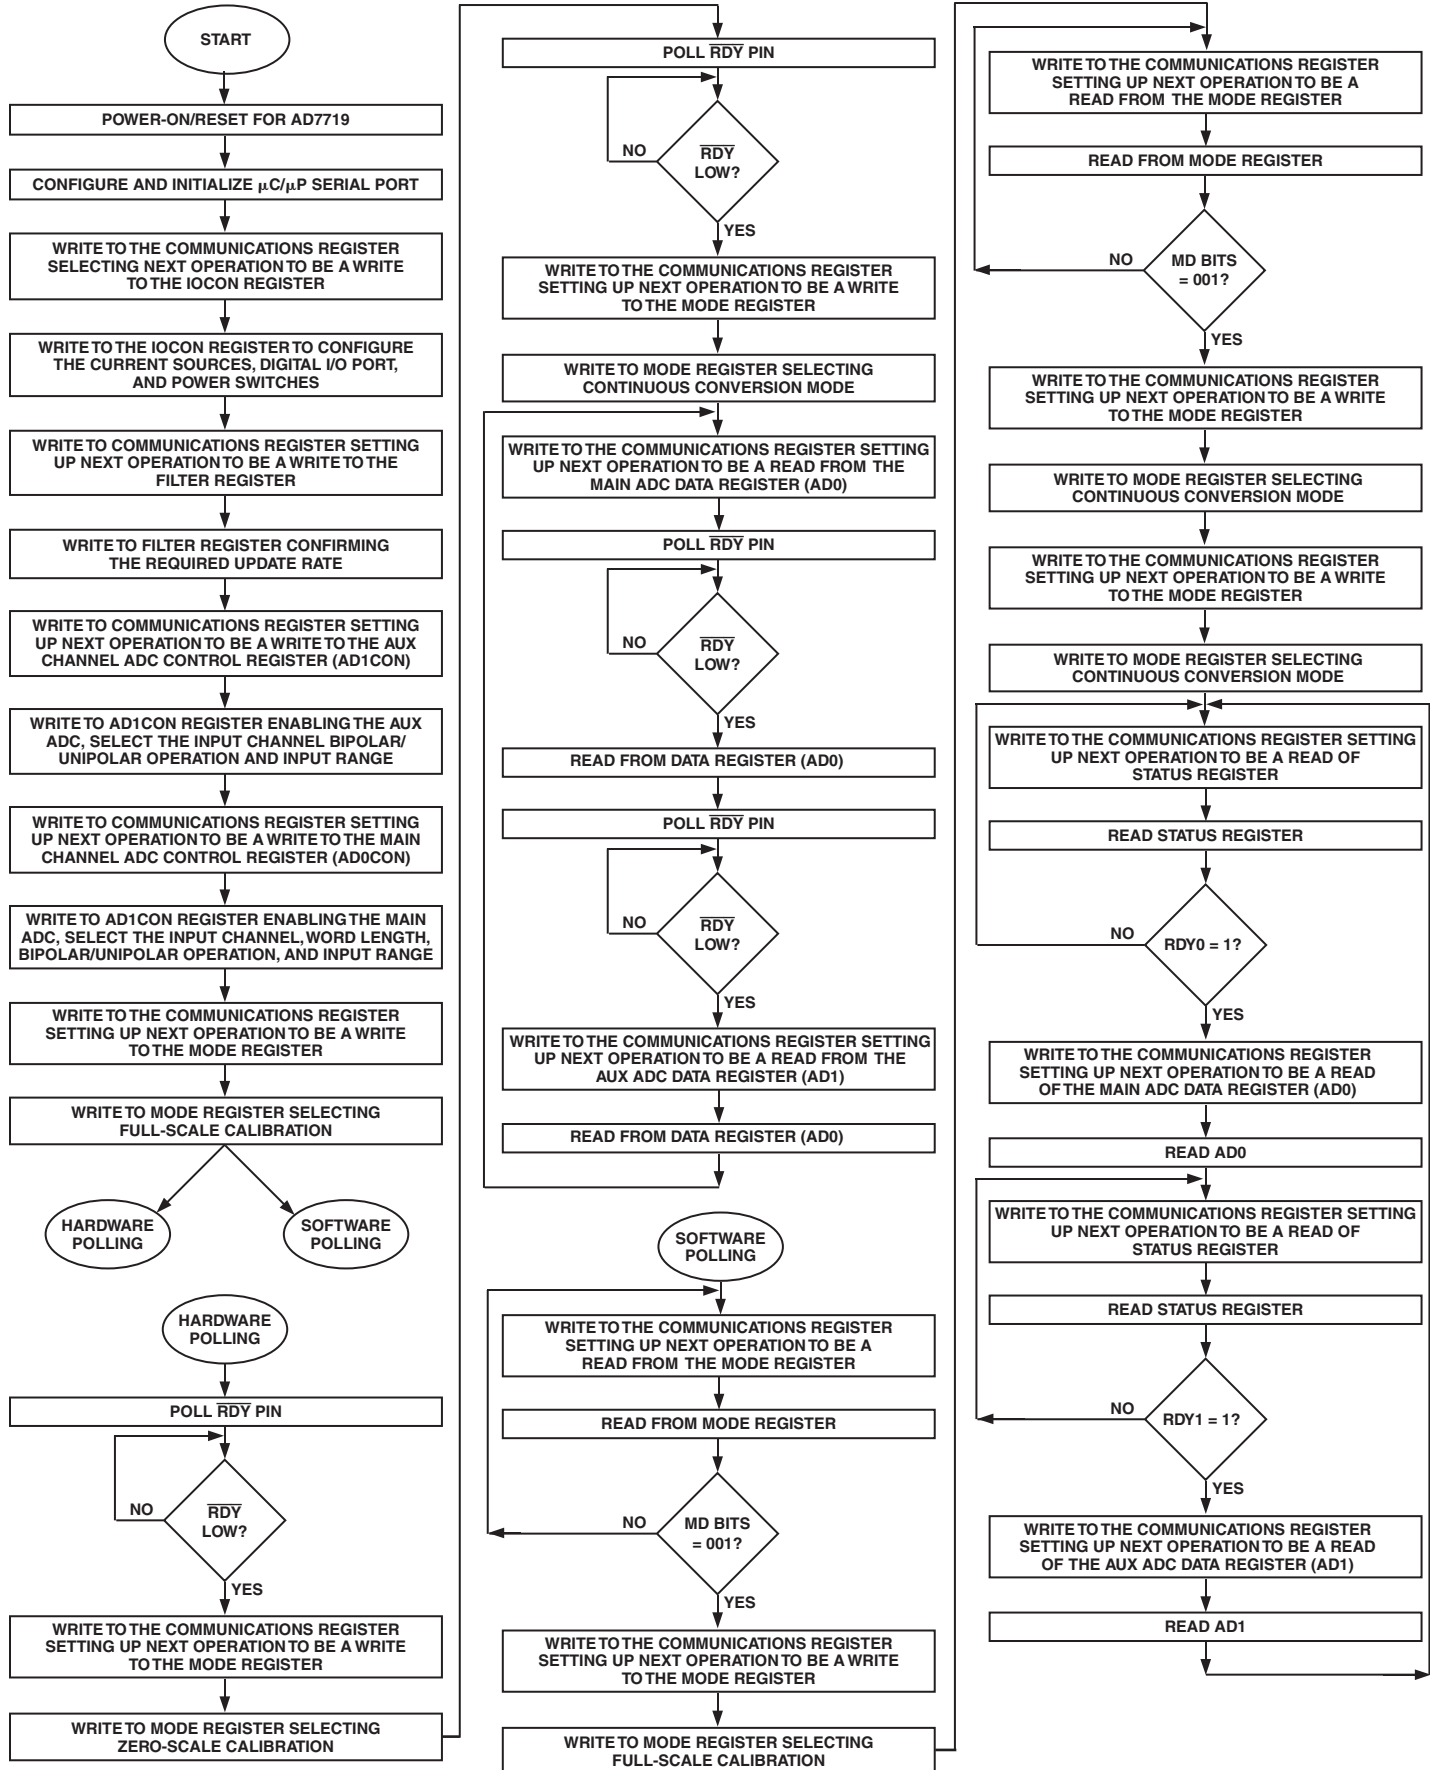
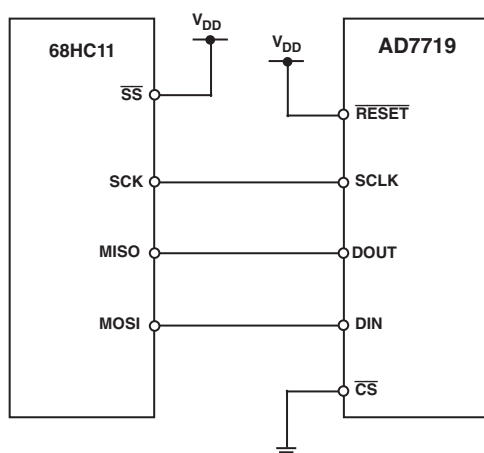

Figure 11. Flowchart for Initializing, Calibrating, and Reading Data from the AD7719 Main and Aux Channels
Figure 12. AD7719-to-68HC11 Interface
Figure 11 outlines a flow diagram of the sequence used to configure all registers after a power-up or reset on the AD7719. The flowchart shows two methods of determining when it is valid to read the data register or determine when a calibration cycle is complete. The first method is hardware polling of the $\overline{\text{RDY}}$ pin and the second method involves software interrogation of bits in the status and mode registers. The flowchart details all the necessary programming steps required to initialize the ADC and read data from the main and aux channel following a power-on or reset. The steps can be broken down as follows:
3. When the operating mode is selected, the user needs to determine when it is valid to read the data in conversion mode or when the calibration is complete in calibration mode. This is accomplished either by polling the $\overline{\text{RDY}}$ pin (hardware polling) or by interrogating the bits in either the Status or Mode registers (software polling). Both are shown in Figure 11. It is assumed that both the main and aux ADCs are being used and calibration is required. If the AD7719 is operated at the factory-calibrated conditions, a field calibration will not be required and these steps can be bypassed.
The AD7719's flexible serial interface allows for easy interface to most microcomputers and microprocessors. The flowchart of Figure 11 outlines the sequence that should be followed when interfacing a microcontroller or microprocessor to the AD7719. Figures 12, 13, and 14 show some typical interface circuits.
Figure 12 shows an interface between the AD7719 and the 68HC11 microcontroller. The diagram shows the minimum (3-wire) interface with \overline{CS} on the AD7719 hardwired low. In this scheme, the RDY bits of the Status register are monitored to determine when the Data register is updated. RDY0 indicates the status of the main ADC channel while RDY1 indicates the status of the aux channel. An alternative scheme, which increases the number of interface lines to four, is to monitor the \overline{RDY} output line from the AD7719. The monitoring of the \overline{RDY} line can be done in two ways. First, \overline{RDY} can be connected to one of the 68HC11's port bits (such as PC0), which is configured as an input. This port bit is then polled to determine the status of RDY. The second scheme is to use an interrupt driven system, in which case the \overline{RDY} output is connected to the IRQ input of the 68HC11. For interfaces that require control of the \overline{CS} input on the AD7719, one of the port bits of the 68HC11 (such as PC1) that is configured as an output, can be used to drive the \overline{CS} input.